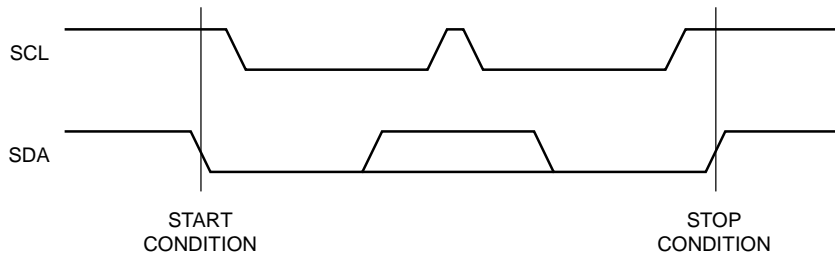

Figure 5. START/STOP Condition
- (1) Data transfer may be initiated only when the bus is not busy.
- (2) During a data transfer, the data line must remain stable whenever the clock line is high. Any changes in the data line while the clock line is high will be interpreted as a START or STOP condition (Figure 5).
After a successful data transfer, each receiving device is required to generate an acknowledge. The acknowledging device pulls down the SDA line during the ninth clock cycle, signaling that it received the 8 bits of data. The SDA line remains stable LOW during the HIGH period of the acknowledge related clock pulse (Figure 5).